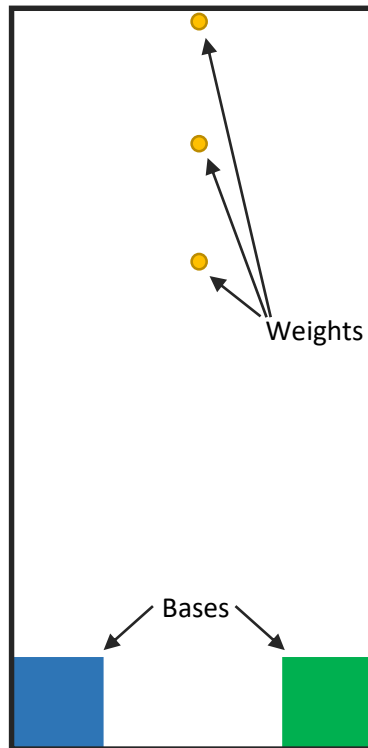

Figure 1 Arena layout
Within the arena there are two areas designated as bases. These areas will be coloured *green* and *blue*, different from the surrounding arena (black) and obstacles (red). These bases will measure 600mm x 600mm and include a low rim. The robots will start each round on one of these bases. The approximate layout for the fixed aspects of the arena are shown in Figure 1.
- 2.2.4. The bases will be located as per Figure 1.
- 3.1.2. The target *weights* will be located approximately as per Figure 1.